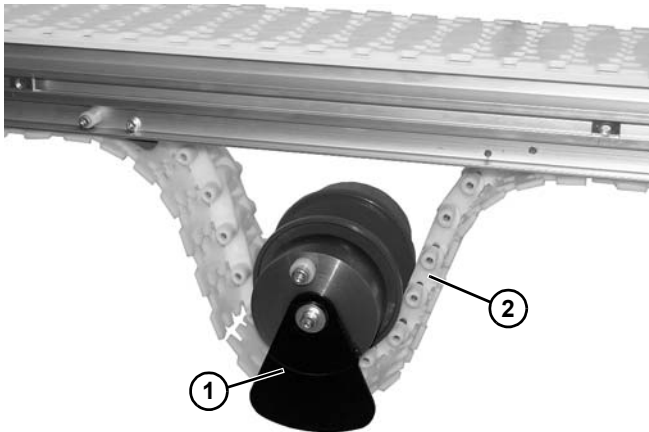

Figure 155
11. Install idler pulley assembly (**Figure 155, item 1**) onto conveyor in belt loop (**Figure 155, item 2**).